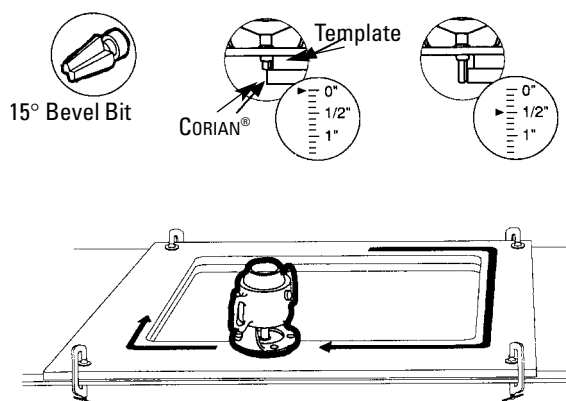

Figure 6
4. Bevel the cutout edge with a 15° bevel bit (see Figure 6).